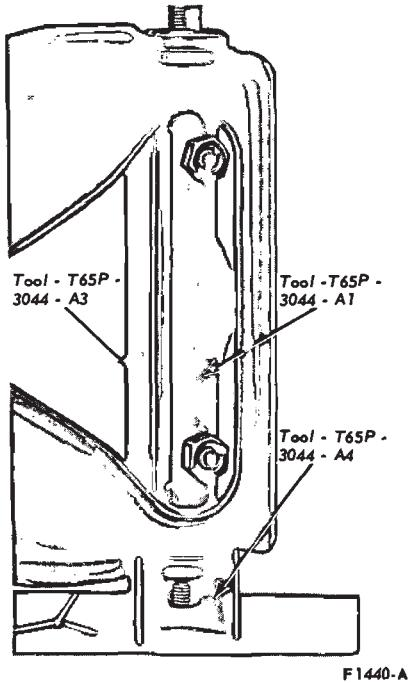

FIG. 16—Removing Upper Arm Bushings
2. Install Tool T65P-3044-A1 on the inner shaft and place Tool T65P-3044-A3 inside the upper arm around the inner shaft (Fig. 16).
3. Position the upper arm in an arbor press on Tool T65P-3044-A4 (Fig. 16), and press the lower bushing out of the upper arm.